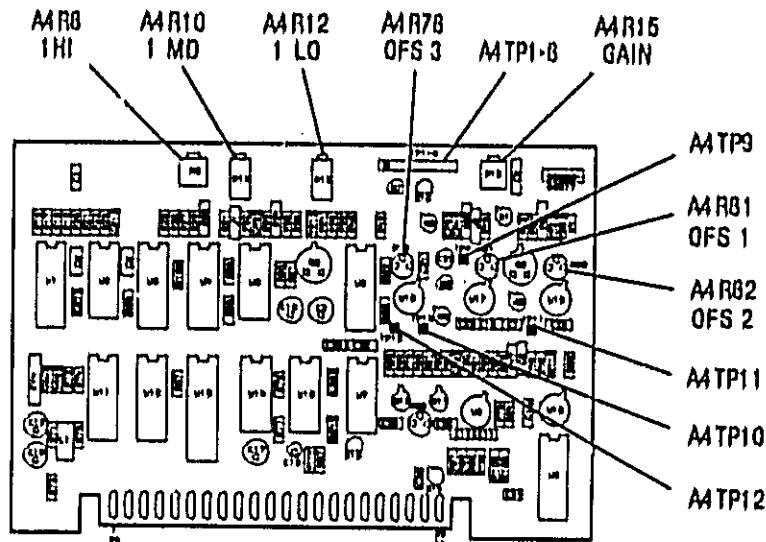

Figure 5-30. ALC Adjustment Locations (CHANGE 4)
2. Float the ground on the Digital Voltmeter and measure the voltage between A4TP9 and A4TP10. Refer to Figure 5-30 for adjustment locations. Adjust A4R81 (OFS 1) for 0.000 ± 0.001 Vdc.